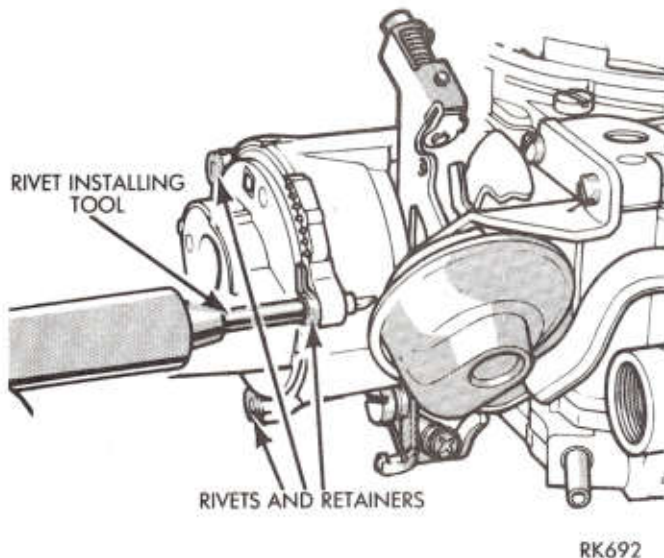

Fig. 26—Installing Choke Cover Rivets
(2) Install thermostatic cover and coil assembly in the choke housing making sure coil tang engages the inside coil pick-up lever.
(3) Reinstall choke cover retainers and blind rivets using a suitable blind rivet tool (Fig. 26).